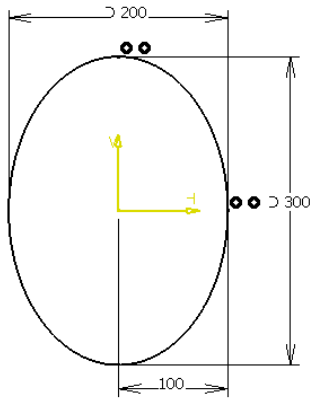

Figure 9-58 The guide curve
- b. Create swept surface as the base feature, refer to Figures 9-58 through 9-60.
3. Draw an ellipse, as shown in Figure 9-58, and exit the **Sketcher** workbench.